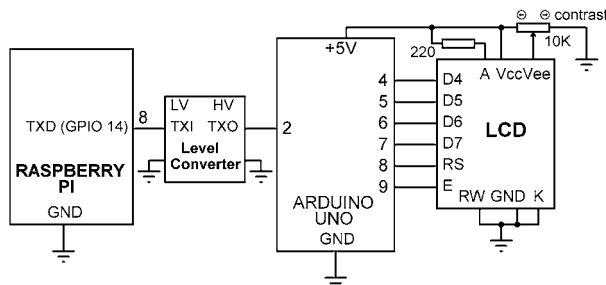
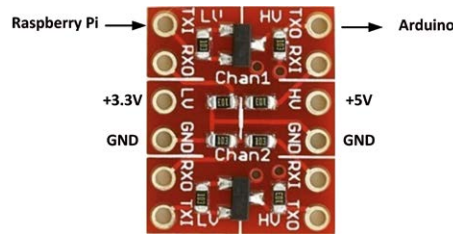
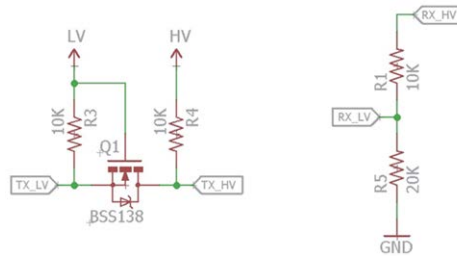

Figure 11.28 Circuit diagram of the project
Figure 11.29 Logic level converter module
Figure 11.30 Circuit diagram of the logic level converter
Circuit diagram: Figure 11.28 shows the circuit diagram of the project. The serial output pin of the Raspberry Pi is connected to pin 3 of the Arduino Uno, where this pin is configured as serial input. A standard HD44780 compatible parallel LCD is connected to the Arduino Uno as shown in the figure. The output HIGH voltage of a Raspberry Pi pin is maximum +3.3V and this is not enough to drive the input of the Arduino Uno. A logic level converter module (Figure 11.29) is used to increase the output voltage level of Raspberry Pi to +5V. As shown in Figure 11.30, the one used in this project is a 2-channel module. A MOSFET transistor is used to convert +3.3V to +5V, and a resistive potential divider circuit is used to convert from +5V to +3.3V.
- Build your circuit as shown in Figure 11.28, turn ON the Arduino Uno. You should see the temperature and humidity displayed on the LCD as shown in Figure 11.34